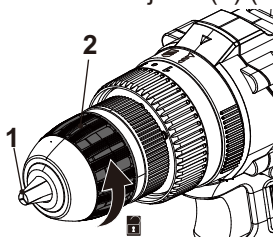

Fig. 1
1. Turn the chuck sleeve (2) anticlockwise until the chuck jaws (1) are opened wide enough to insert the drill bit (Fig. 1).